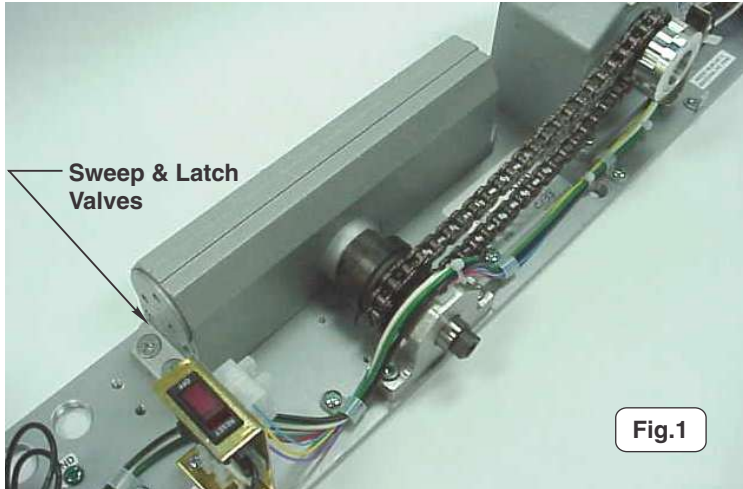
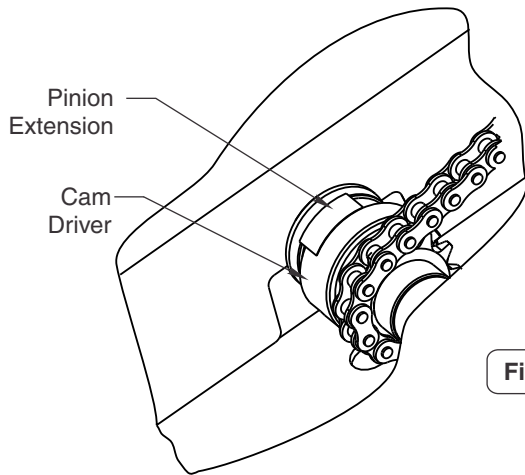

Fig.1
Fig.2
1. The unit shown in fig.1 is configured for a push side application. Note the valve orientation of the closer body. The photo in fig.2 shows a close-up view of the clutch mechanism configured for push side application.